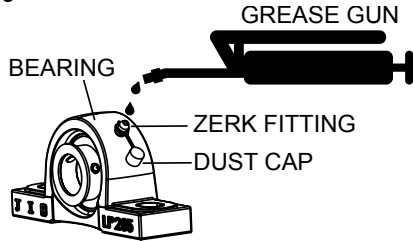

Figure 12. Bearing Lubrication
1. Remove dust cap located on top of bearing (Figure 12).